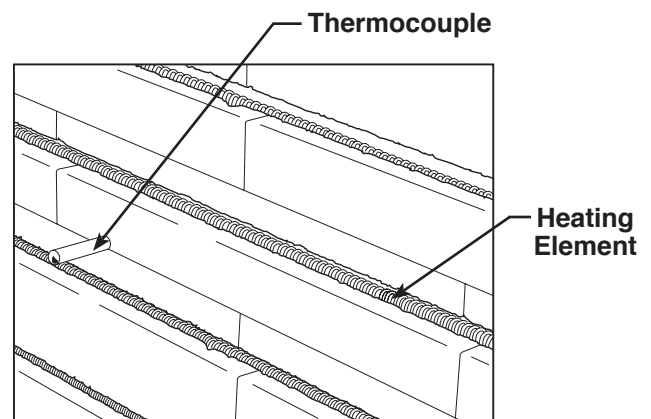

Figure 6
- Keep the DPF at least one inch away from the thermocouple (temperature sensor) and the heating elements. See Figure 6.
WARNING: To prevent personal injury, verify the thermocouple (temperature sensor) is in place as shown in Figure 6. If the thermocouple has receded into the chamber wall or has been damaged, the chamber could overheat, resulting in a fire.